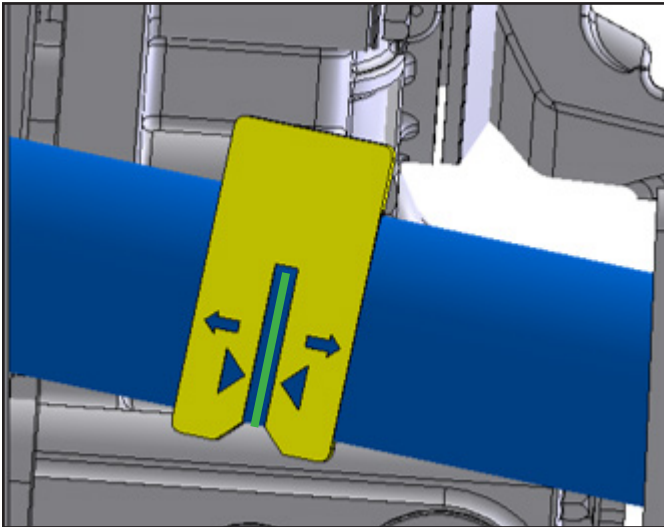

Figure 15
- C. Place the shaft play check gauge (PN 1699421) over the shaft with the laser line lined up in cut out hole on the side (Figure 15).